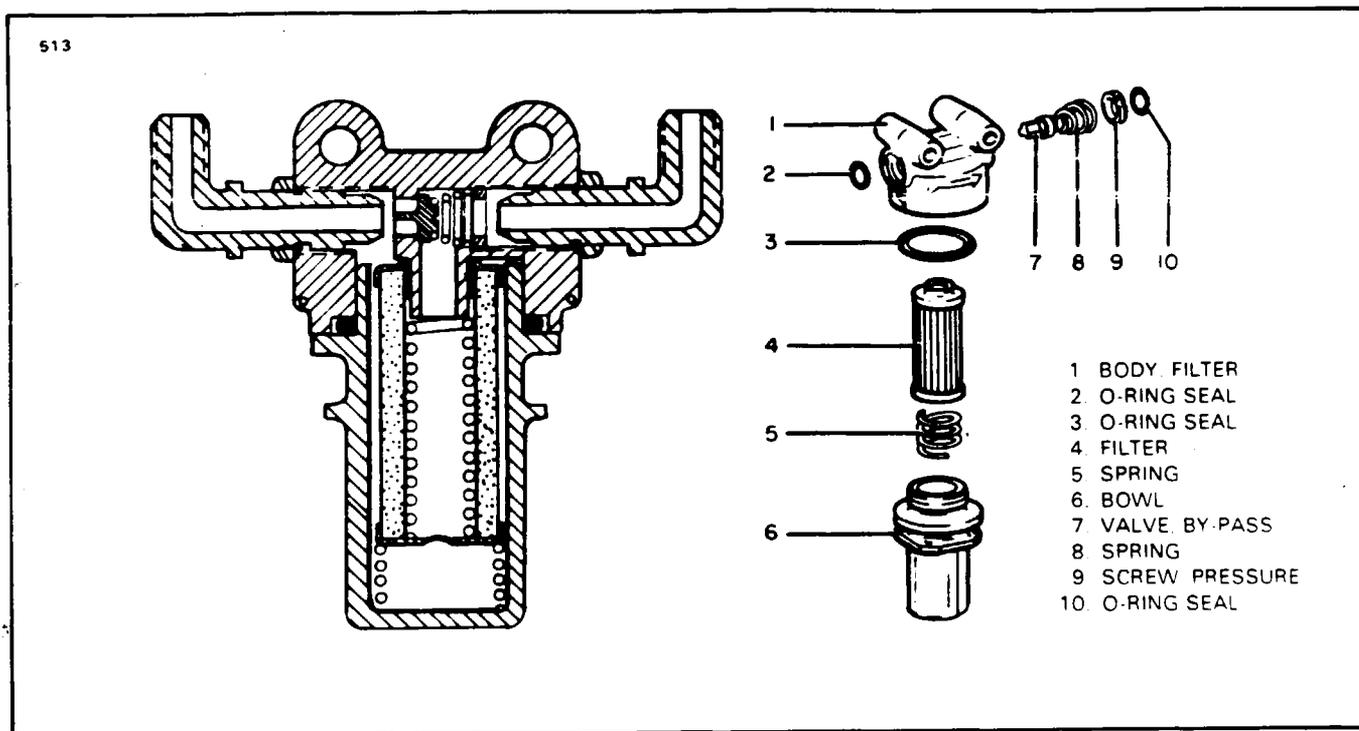

Figure 29-14. Hydraulic Filter
**REPLACEMENT OF FILTER ELEMENTS.** (Refer to Figure 29-14.)